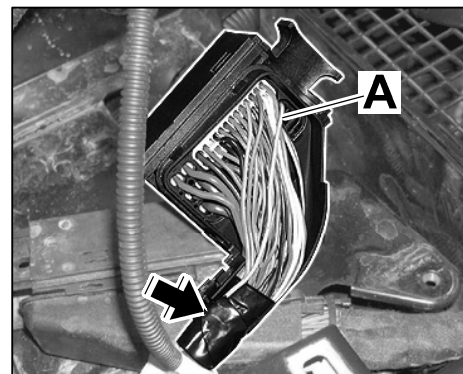

Figure 27
- 4.5 Secure line $\Rightarrow$ Figure 27 **-A-** to original wire harness for DME control unit with wrapping tape $\Rightarrow$ Figure 27 **-arrow-**.